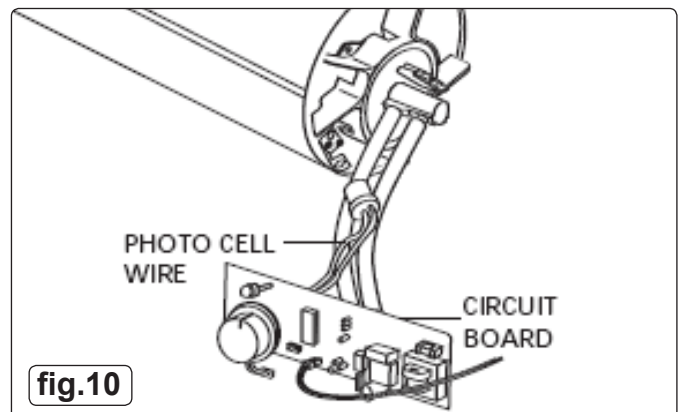

fig.10
7.6 PHOTO CELL (See figs.10&11)